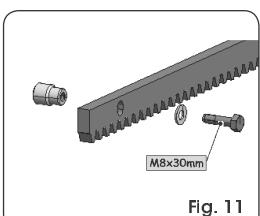

Fig. 11
5.4.1. STEEL RACK TO BE WELDED (FIG.11)